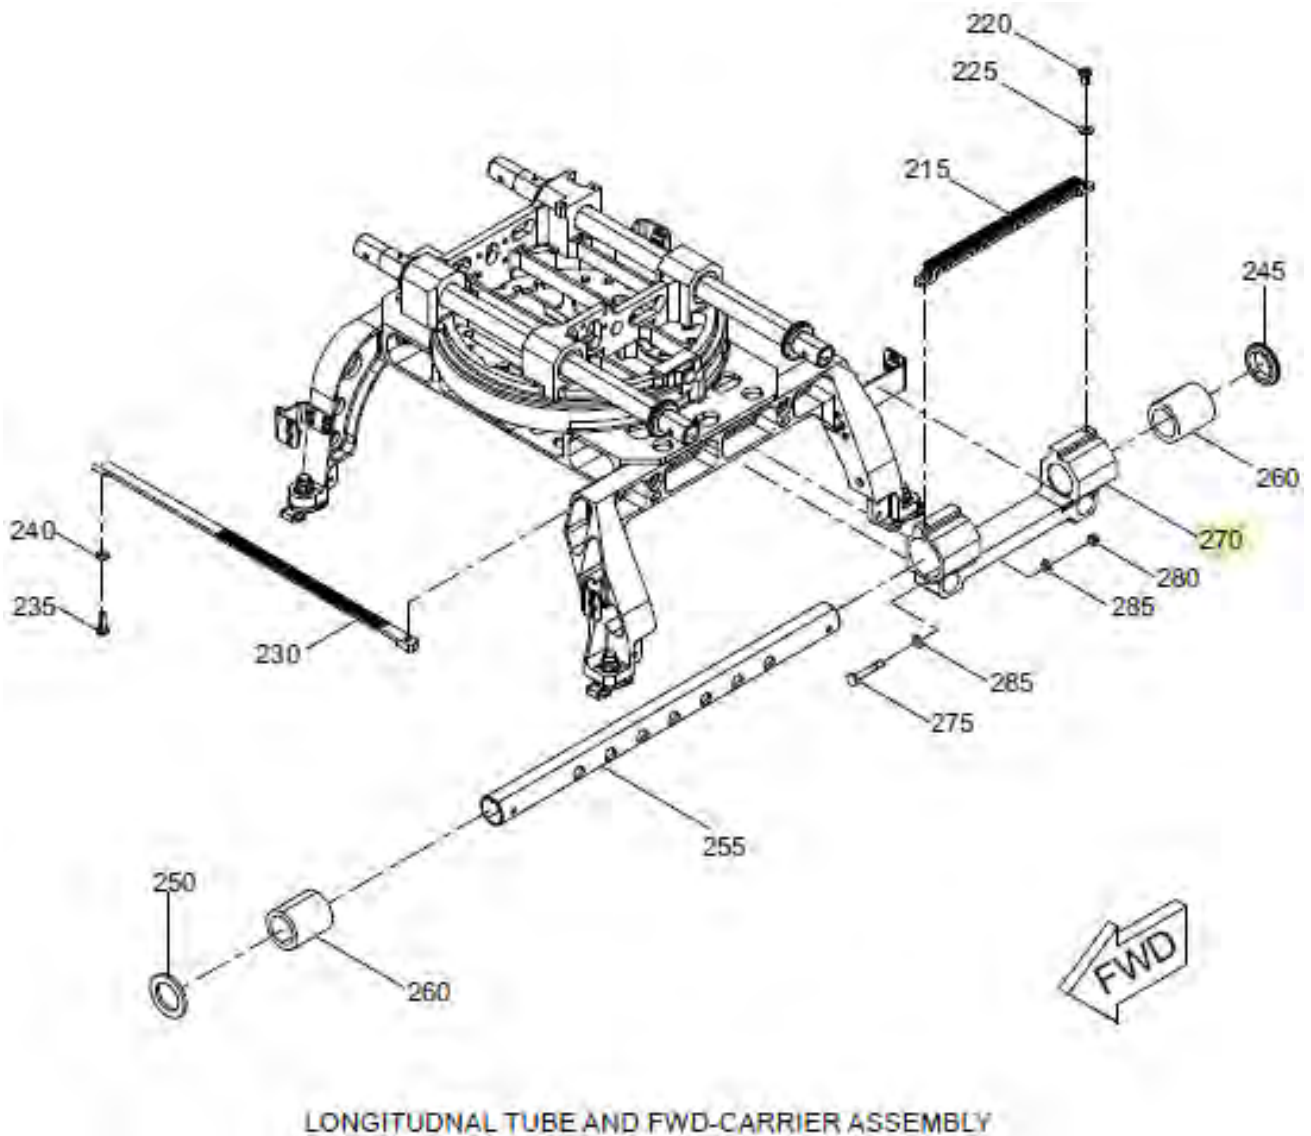

FIGURE 4
- c. Remove the forward/ aft ward bearing carrier (7-265, 7-270) and two linear ball bushing bearings (7-260) as shown in figure 4.
- h. Attach the rear pan fairing mounting bracket (3-80) to the upper seat assembly (3-5, 3-10) with two washers (3-90), one bolt (3-85) and one nut (7).
- i. Attach the rear pan fairing mounting bracket (3-55, 3-60) to the upper seat assembly (3-5, 3-10) with two washers (3-70), one bolt (3-65) and one nut (7).
11. Install set screw – ball end (10) to the turntable & mechanism assembly base (7-1, 7-1A) as follows:
- a. Install set screw – ball end (10) using threadlock adhesive and one nut (11) to the bottom of the lateral brake mechanism assy (7-40) as shown in Figure 4.
- b. Tighten set screw – ball end (10) enough to ensure full engagement of teeth between serrated – lateral bar (7-230) and the lateral brake mechanism assy (7-40).